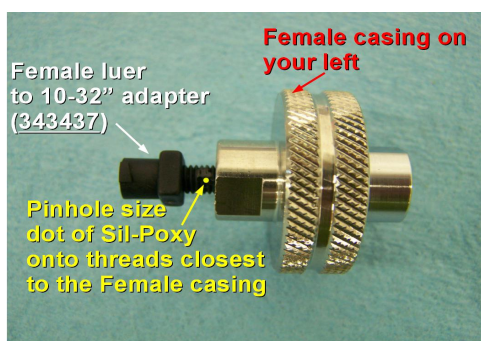

Figure 3: Installing the *Female Luer Adapter* into the *Female Casing*.
- Orient the *Filter* so that the *Female Casing* is on your left and then screw the first 1-2 threads of the *Female Luer to 10-32 Adapter* (343437) into the *Female* piece as shown in Figure 3. Neatly apply [1] pinhole size dot of *Sil-Poxy* onto the next 2-3 threads that are closest to the *Female casing* and then hand tighten the *Adapter*. Use the 5/16" *Combination Wrench* (041040) to tighten another **1/2 turn** to insure the proper tightness. **Note that most fittings require only a 1/4 turn after they have been finger tightened, so make certain that you do not over tighten in other applications. It is extremely easy to break the Adapter when tightening so be very careful.**